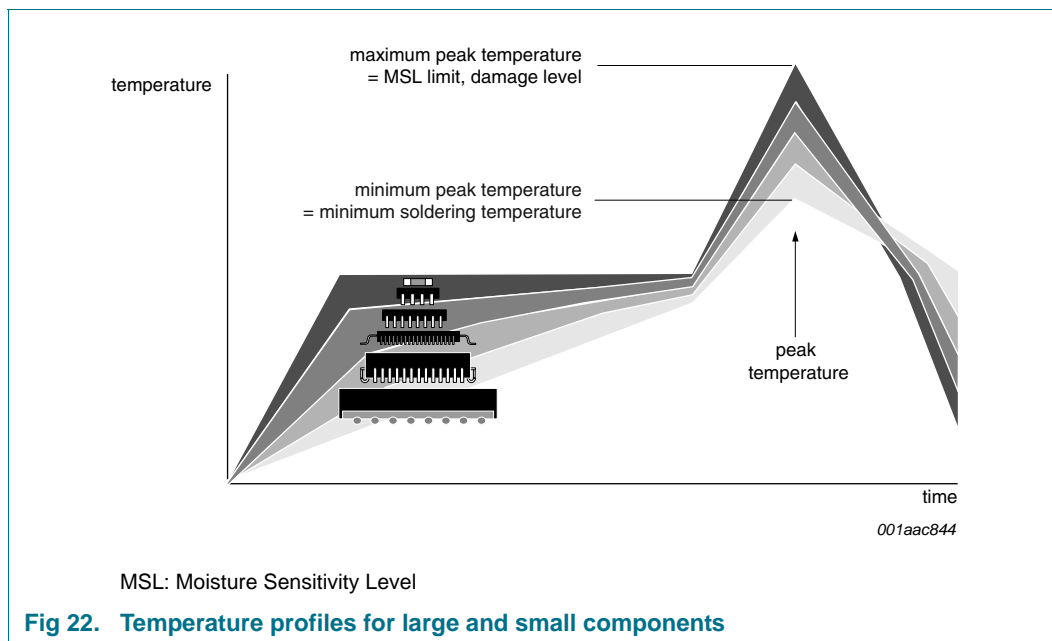

Fig 22. Temperature profiles for large and small components
- Lead-free versus SnPb soldering; note that a lead-free reflow process usually leads to higher minimum peak temperatures (see Figure 22) than a SnPb process, thus reducing the process window
Studies have shown that small packages reach higher temperatures during reflow soldering, see Figure 22.